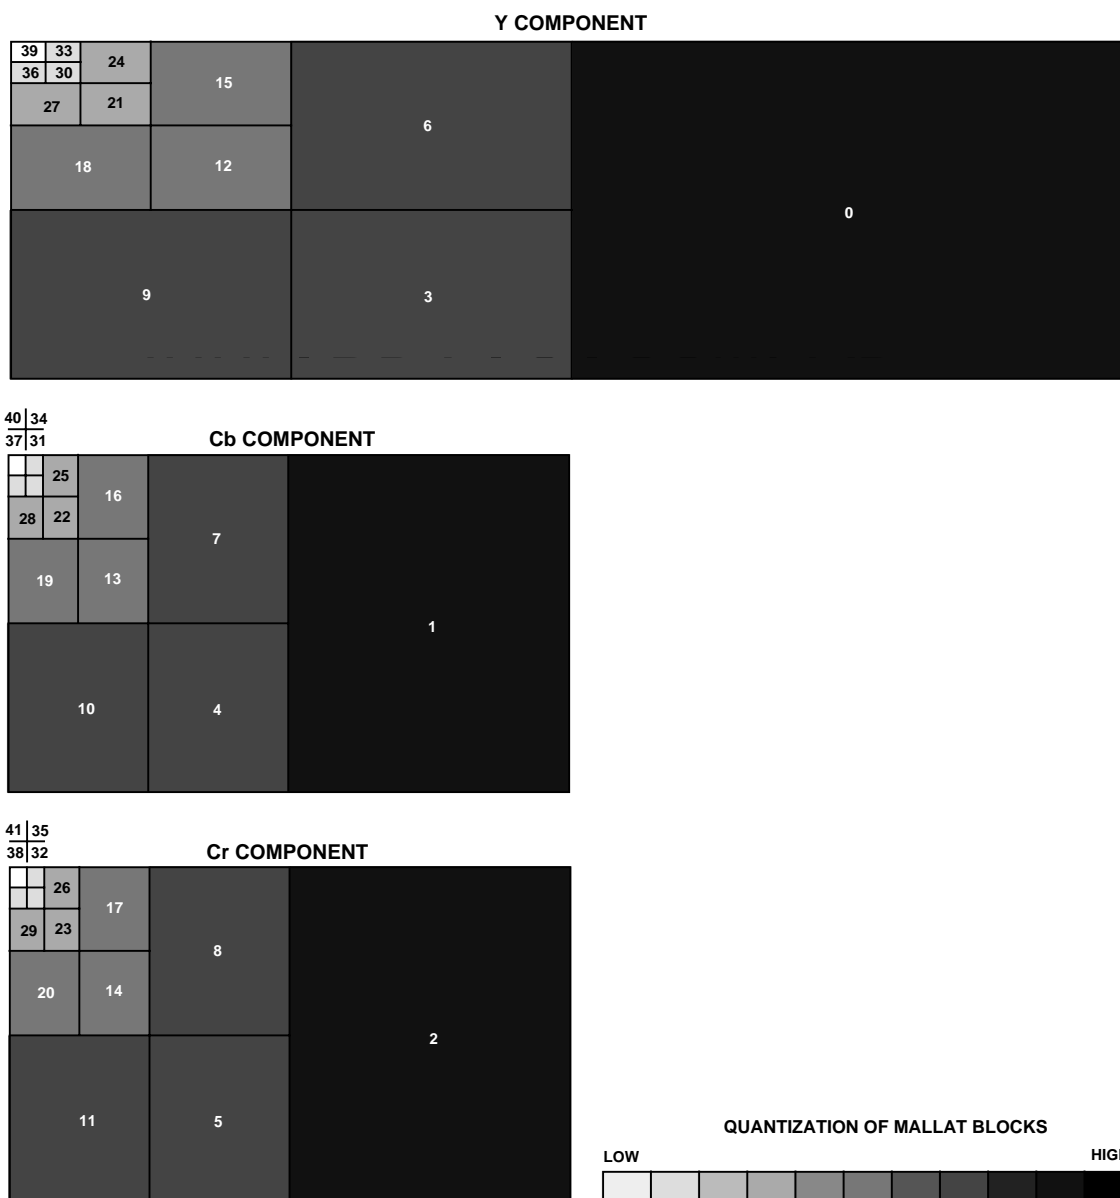

Figure 8. Typical Quantization of Mallat Data Blocks (Graphed)
Figure 8 shows how a typical quantization pattern applies over Mallat block data. The high frequency blocks receive much larger quantization (appear darker) than the low frequency blocks (appear lighter). Looking at this figure, one sees some key point concerning quantization: (1) quantization relates directly to frequency in Mallat block data and (2) levels of quantization range widely from high to low frequency block. (Note that the fill is based on a log formula.) The relation between actual ADV601 bin width factors and the Mallat block fill pattern in Figure 8 appears in Table II.
1The Mallat block numbers, Bin Width factors, and Reciprocal Bin Width factors in Table II correspond to the shading per-cent fill) of Mallat blocks in Figure 8.